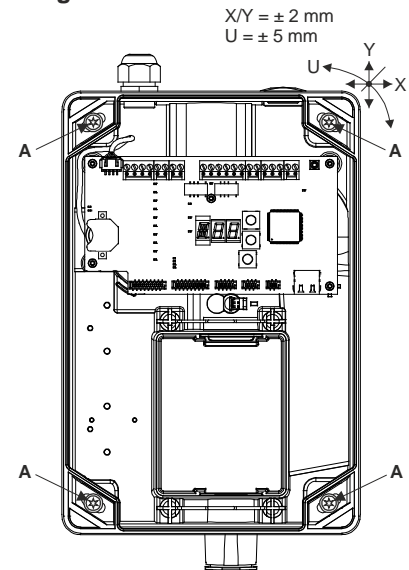

Fig. 1 Open, closing and securing the detector housing
- To actuate the **rotary snap locks**, press them **firmly** with the screwdriver towards the housing base and then **turn** through 90°. The position of the lock slit shows the current status (see **Fig. 1**):